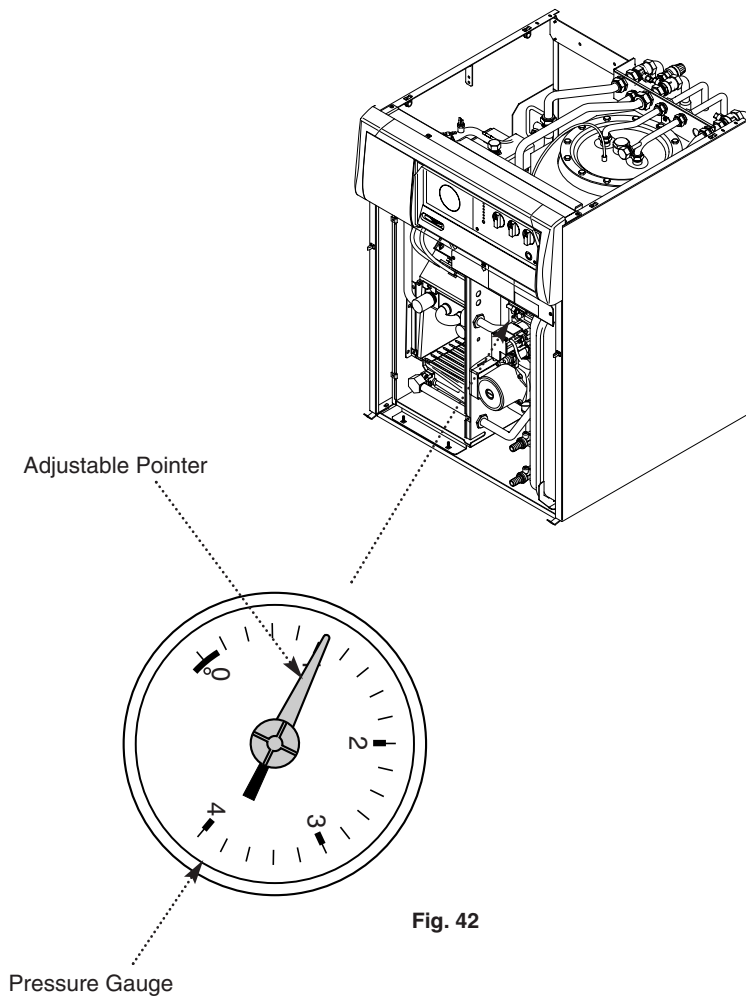

Fig. 42
2. Set the adjustable pointer on the pressure gauge to 1 bar (Fig. 42).